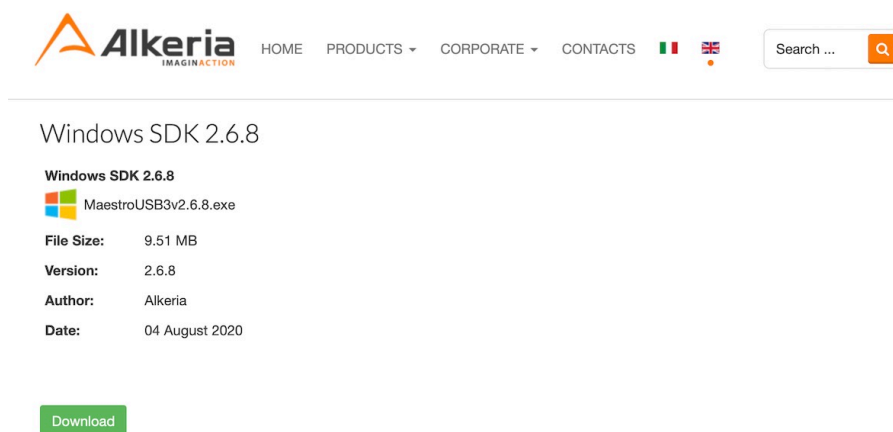

Figure 1.8: Example of single file view
Step 6: Click on the “Log out” orange button to end your session (Figure 1.8), then install the downloaded executable as administrator.